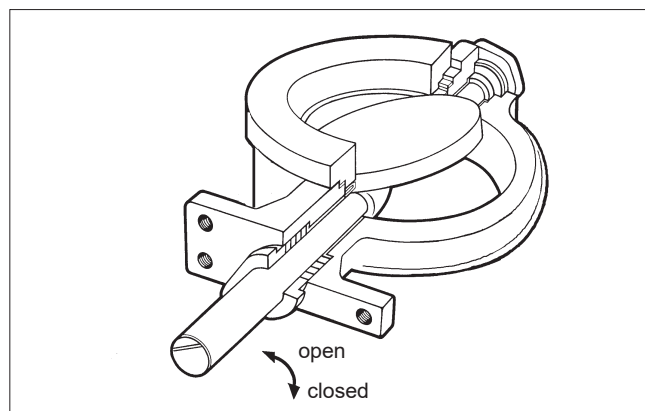

Fig. 12 Open and closed positions of the valve
The marking line parallel to the disc on the valve shaft head shows roughly the closed position of the disc (see Fig. 12).
- Mount the clamp ring and tighten the screws (27) lightly.
- Tighten the screws (27) crosswise and evenly. Recommended torque values for screws are listed in Table 6. An unevenly tightened flange may damage the seat ring. The screw heads must be below the flange surface in lug type valves.
- Check the position between the seat ring and the disc. The valve closes clockwise (see Fig. 12).
- Press the shafts into the disc drillings. Align the pin holes. The shaft (5) position against the disc must be according to Figure 12.
- Install the gasket (18) and the blind flange (10). Screws of the blind flange must be tightened evenly. An unevenly tightened flange will damage the seat.
- Install the body gasket (19) and the clamp ring (2). See details in Section 5.5.
- Check the contact line between the seat ring and the disc (see Fig. 12).